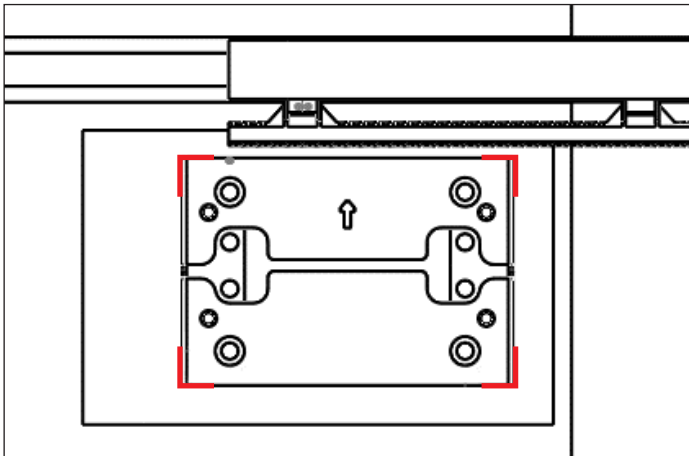

Fig 7
- Mark the (4) positions for your anchor bolts ready for drilling (refer to Fig 7).